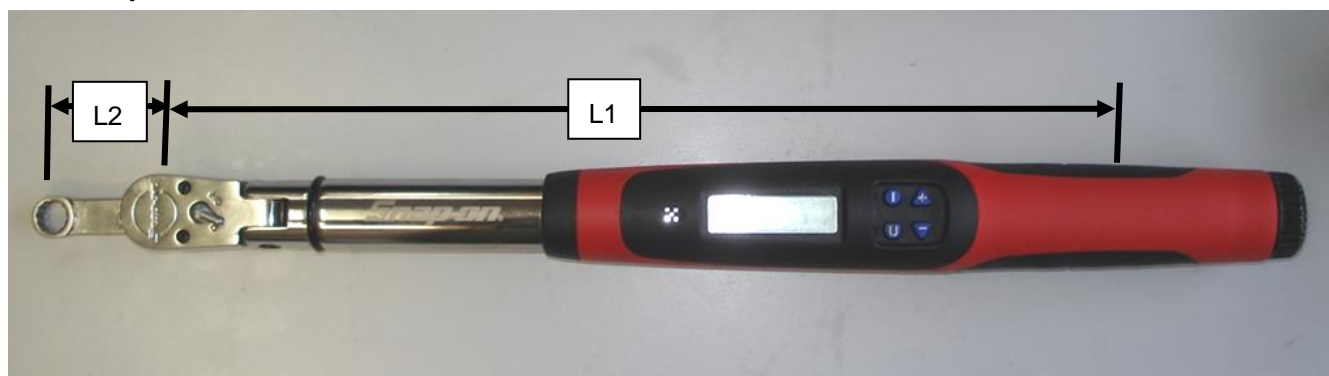

Figure 39 – Torque Wrench & Crowsfoot Adaptor Setting 1
- A “Crowsfoot” extension as shown in Figure 31 is also necessary – it allows high torque settings to be used on small nuts without damaging them. The crankcase through bolt nuts used on Jabiru engines are a good example of an application suitable for a crowsfoot extension. However, when using the extension as shown in Figure 39 the extra length will throw off the torque setting of the wrench. This must be corrected using the following formula:
- For example: a nut needs to be tensioned to 30lb.ft. The torque wrench is 12” long and the crowsfoot extension is 2” long. The extension is oriented as shown in Figure 39. This means that the torque wrench must be set to: